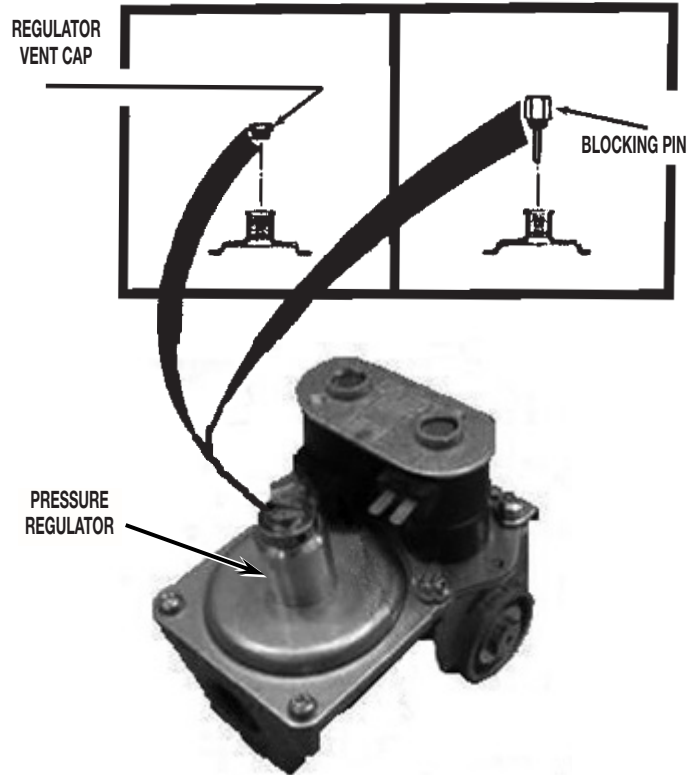

FIGURE 5
- Remove the regulator vent cap (leak limiting device) from the pressure regulator. See *Figure 5*. Continue to Step 10.